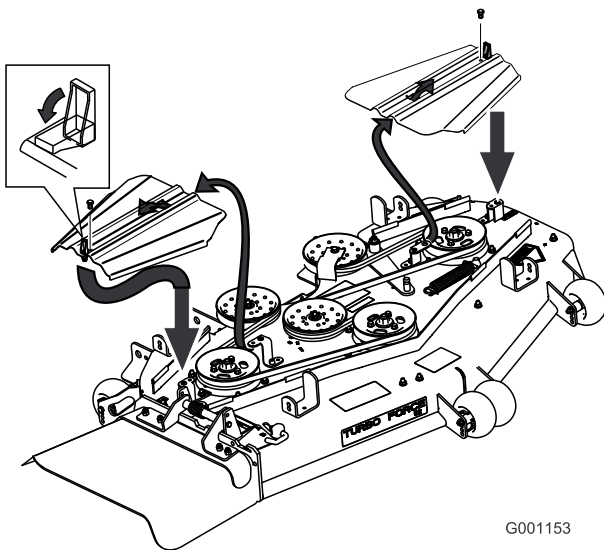

Figure 58
3. Remove the bolts holding the belt covers and remove the belt covers (Figure 58).
9. Install the belt covers by sliding the cover into the tab, install the bolts, and close the latches (Figure 58).